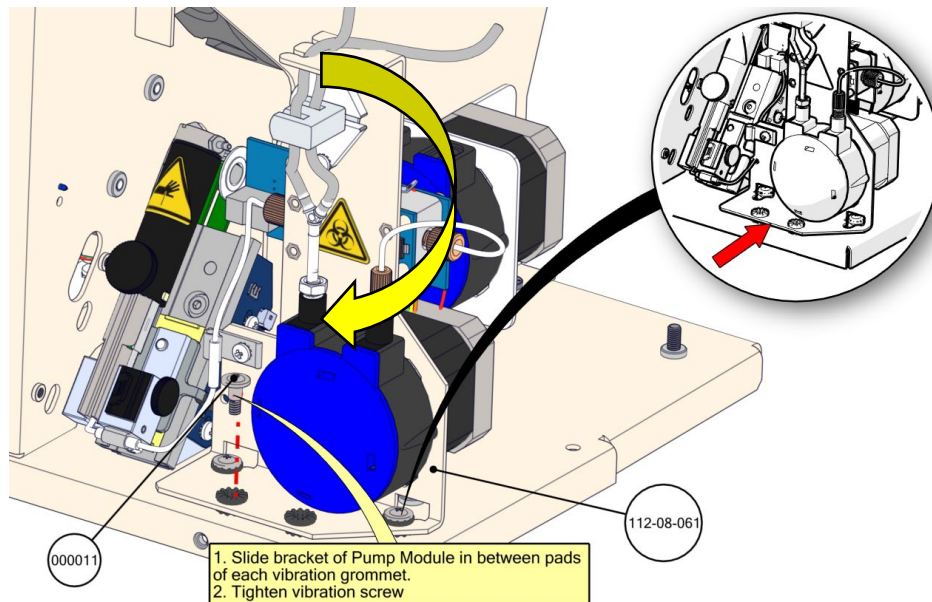

Figure 25
- 7.4. Once completed, return the blue cap by turning clockwise to lock it in place. See Figure 25.
- 7.5. Slide the Primary pump assembly back and tighten the vibration screw. See detail in Figure 25.